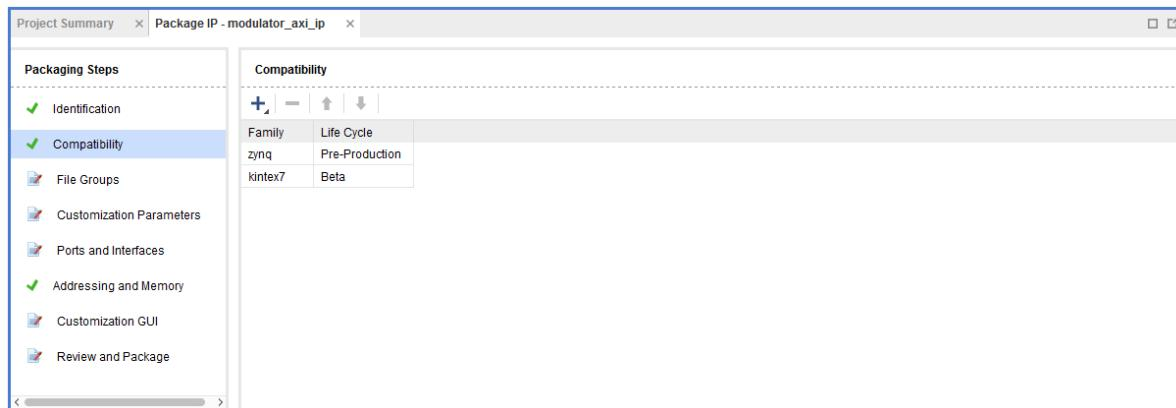

Figure 12.83: Compatibility window
26. In the **Package IP - modulator_axi_ip** window, open **Compatibility** section and click "+" icon to add the family with whom you want your packaged IP core to be compatible. Beside Zynq family we will also add Kintex-7 family, see Figure 12.83.